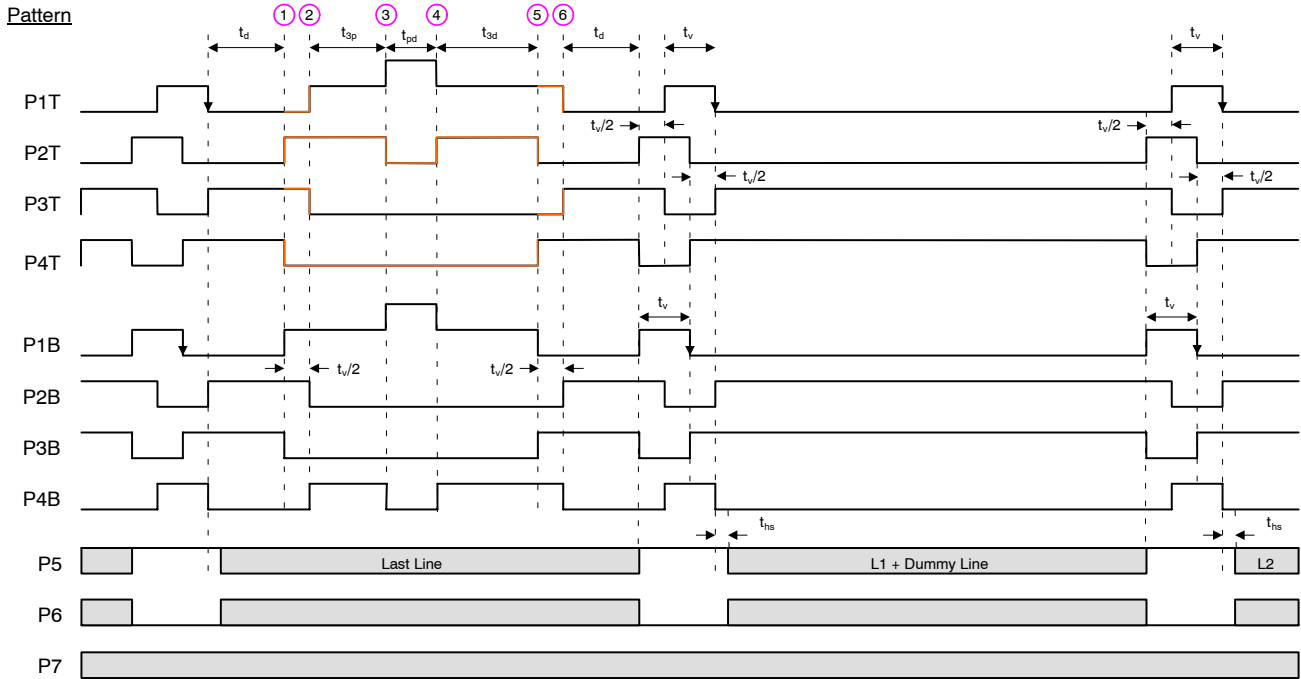
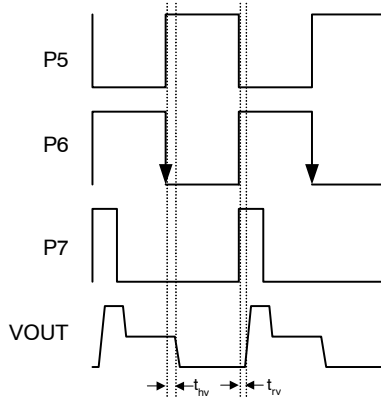
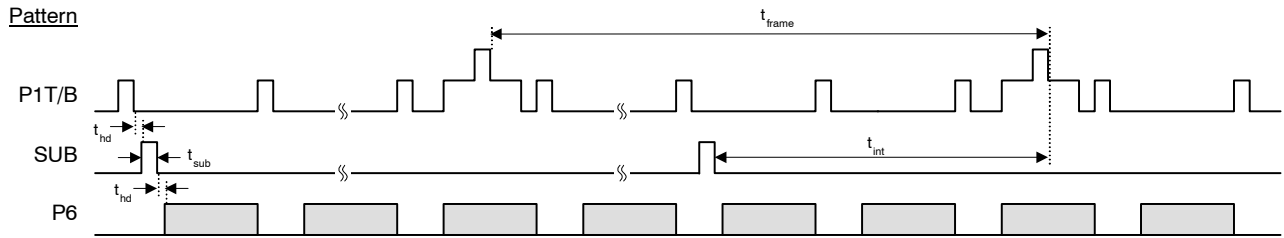
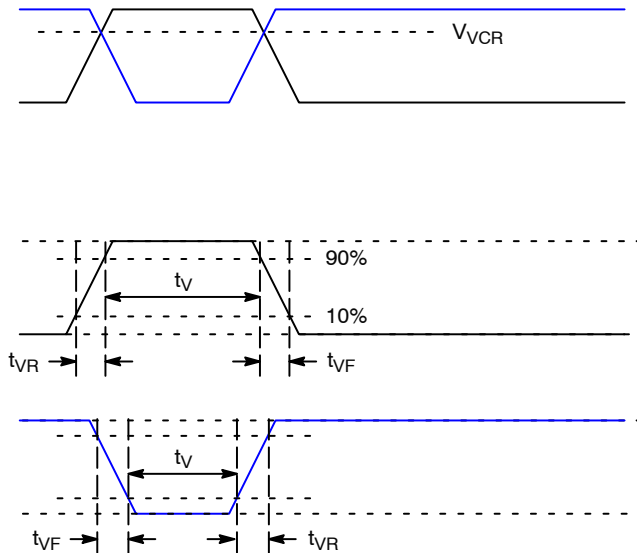

Figure 23. Photodiode Transfer Timing
Figure 25. Pixel Timing Detail
Figure 26. Frame/Electronic Shutter Timing
Figure 27. VCCD Clock Rise Time, Fall Time and Edge Alignment
1. Refer to timing diagrams as shown in Figure 23, Figure 24, Figure 25, Figure 26 and Figure 27.
2. Refer to Figure 27: VCCD Clock Rise Time, Fall Time and Edge Alignment
The timing sequence for the clocked device pins may be represented as one of seven patterns (P1–P7) as shown in the table below. The patterns are defined in Figure 23 and